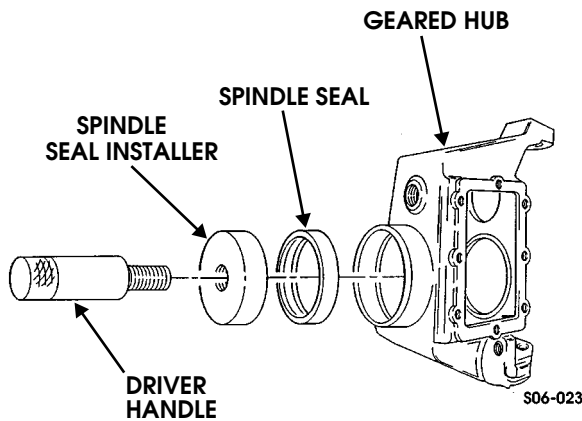

Figure 9-27: Spindle Seal Installation
- Using driver handle J8092 and spindle seal installer J33143, install spindle seal in geared hub (Figure 9-27).